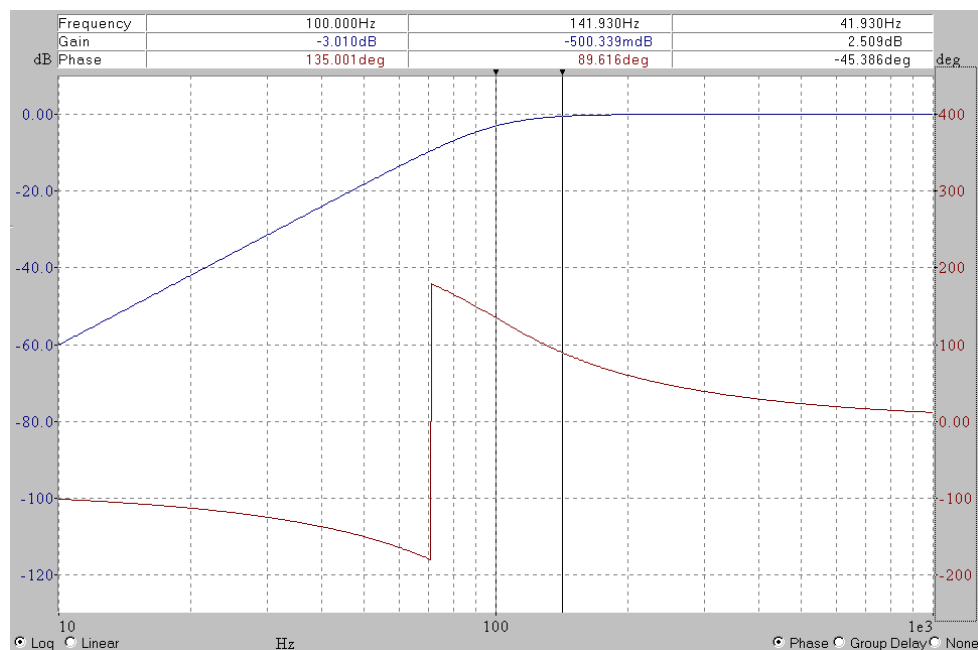

Figure 4.1: Amplitude and phase frequency response of a 3rd order Butterworth high pass filter
- Near the cutoff frequency a significant amplitude error occurs (refer to FIGURE 4.1).
The lower graph in FIGURE 4.1 represents the phase frequency response. The 360° phase jump can only be seen on the diagram for presentation reasons.